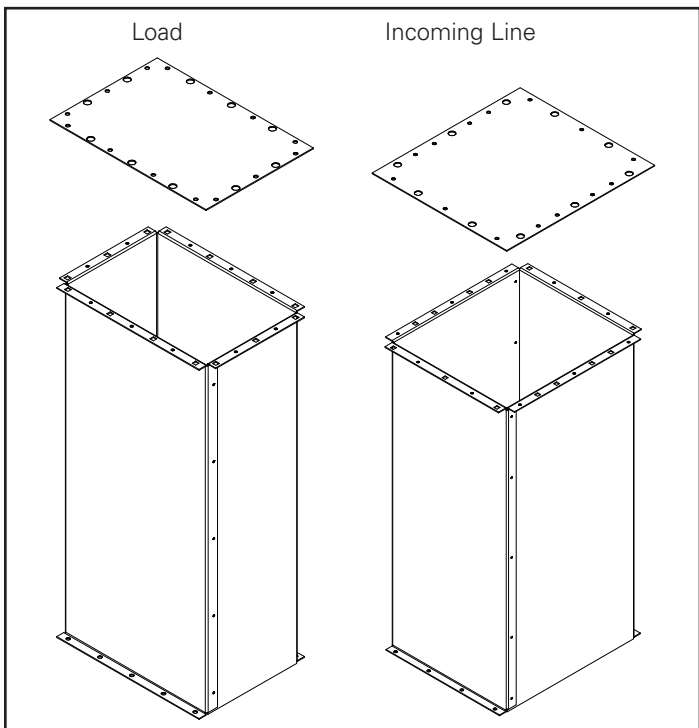

Figure 21. MV Cableways
If the equipment has top-entry cabling, Medium-voltage (MV) cableways for the load (87C1132G02) and incoming line (87C1132G03) must also be installed. Identify the TOP and BOTTOM of these cableways by locating the end with square holes and cage nuts installed. This end is the TOP. (See **Figure 21**).